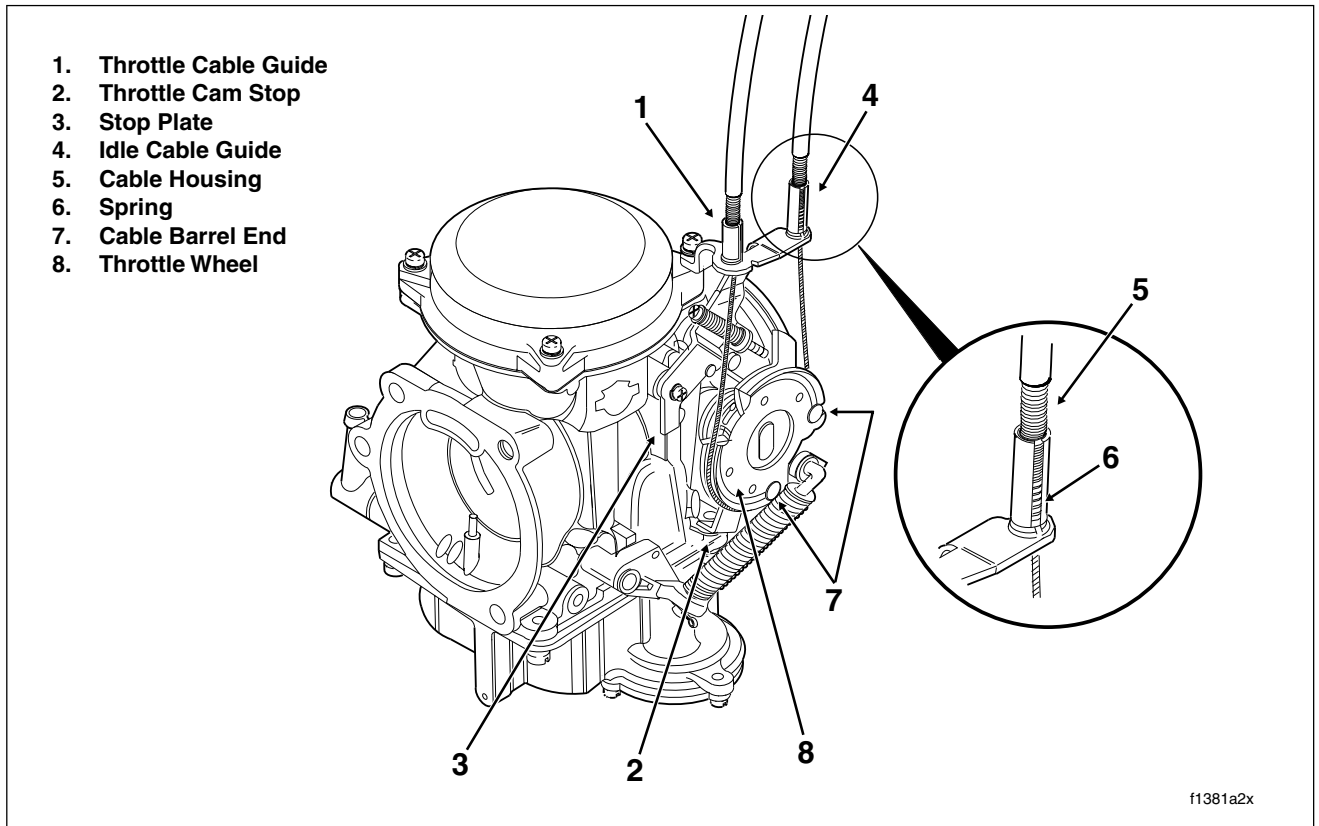

Figure 1-21. Throttle Cable Assembly - Carburetor Side
2. Point the front wheel straight ahead. Gently turn the throttle grip so that the throttle is wide open (fully counterclockwise) and then hold in position. Now turn the cable adjuster counterclockwise until the throttle cam stop just touches the stop plate on the carburetor/induction module. See Figure 1-21. Release the throttle grip, turn cable adjuster counterclockwise an additional 1/2-1 full turn, and then tighten the jam nut against the cable adjuster. Cover cable adjuster mechanism with rubber boot.